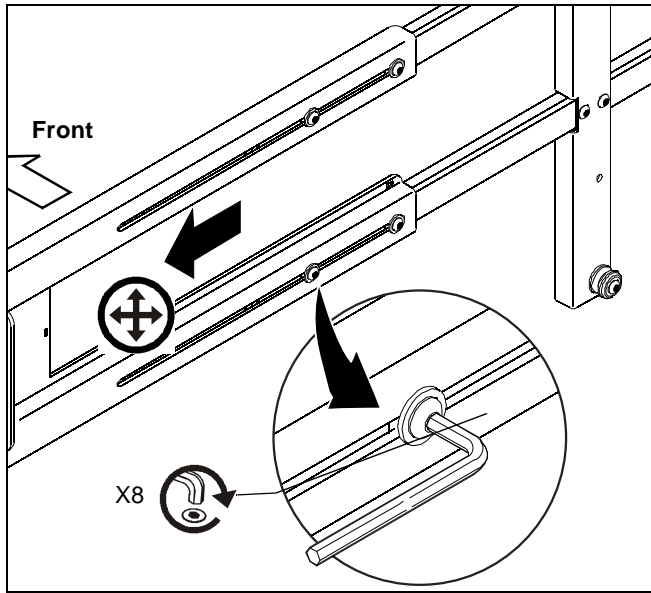

**Figure 10**
2. Verify latching flag is in the OPEN position. (See Figure 10)
5. Move latching flag to CLOSED position to secure display on accessory. (See Figure 10)